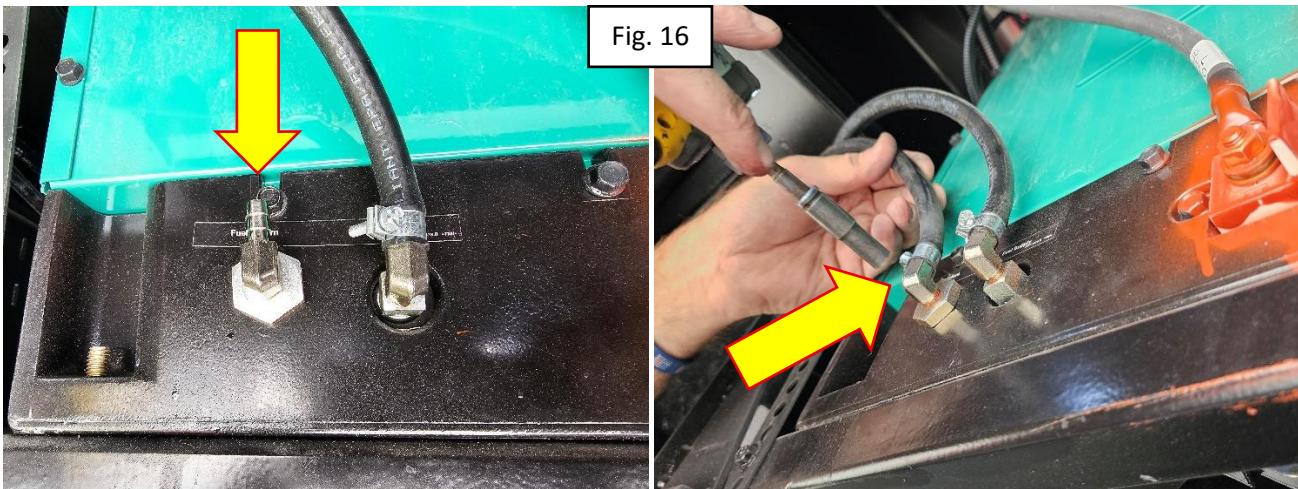

Fig. 16
22. Connect the new return line to the generator using a 7MM socket. (Figure 16)